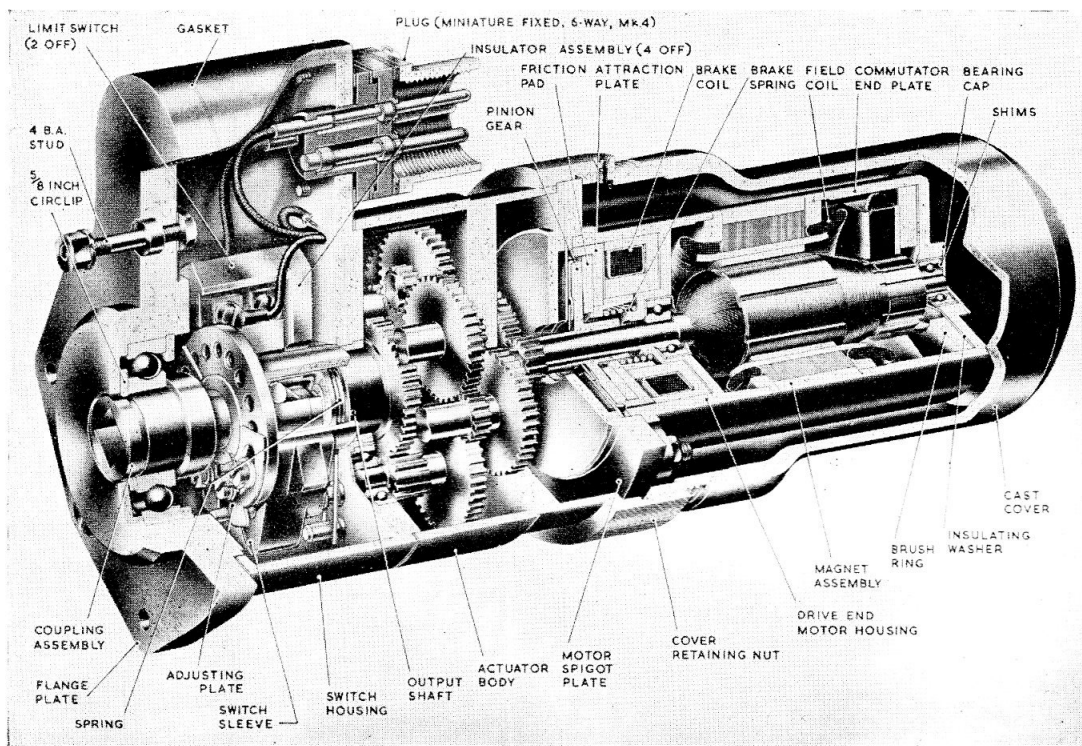

Fig. 2. Sectional view of actuator, Type CZ71186
2. Details of the actuator are shown in the sectional view (*fig. 2*). The features peculiar to this type are described in the